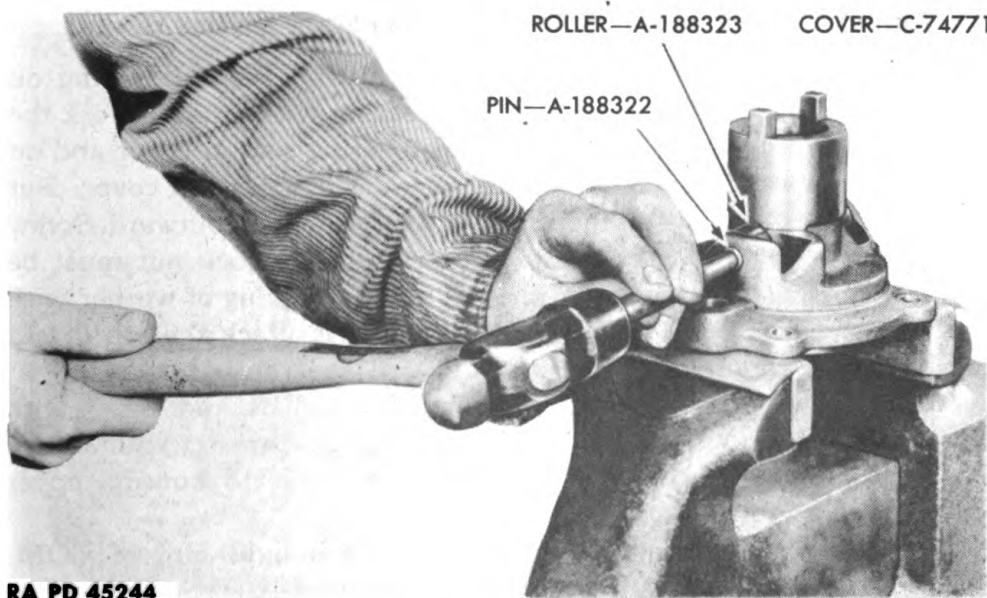

Figure 189—Removing Pin and Roller from Elevating Brake Drum Shaft End Cover
(1) Place the brake drum shaft end cover in a vise fitted with copper jaws (fig. 189). Using a 1/4-inch brass drift and hammer, drive pin A188322 out of roller A188323. Remove roller. Drive pin on through and remove the other roller and pin.
(2) Clean the end cover thoroughly in SOLVENT, dry-cleaning. Coat the new pins and rollers with OIL, engine (seasonal grade), and install in the end cover.